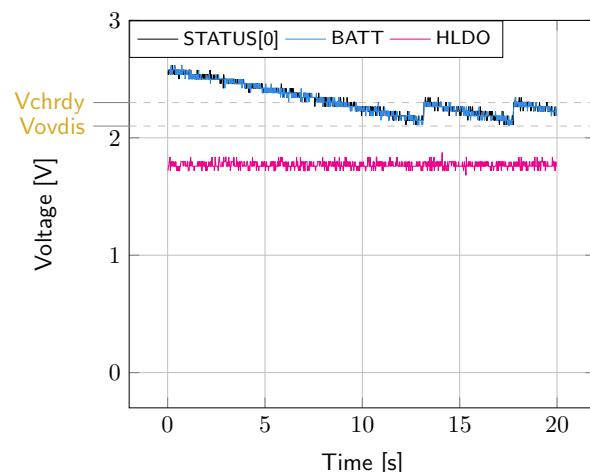

Figure 5: Switching from **SRC** to the primary battery
- **BATT**: Voltage decreases as the system consumes the power accumulated in the storage element. The voltage reaches **Vovdis** and then rises again to **Vchrsty** as it is recharged from the primary battery (see Figure 5).
- **STATUS[0]**: Never de-asserted as the LDOs are still functional (see Figure 5).
- **HLDO**: Stable and not affected by switching on the primary battery (see Figure 5).